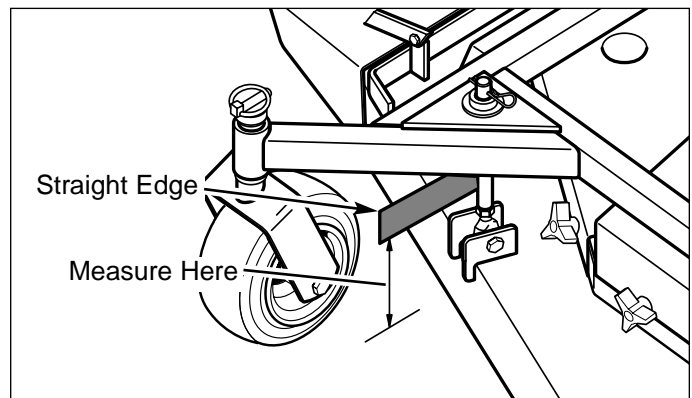

Figure 19. Mowing Height Measurement
4. Now place a straight edge on top of the cutter deck approximately 1" to the outside of the front deck mount on the right side and measure to the floor (see Figure 19). Record your measurement.